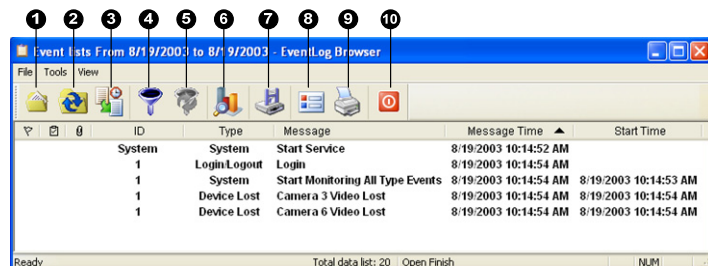

Figure 1-44
4. To print out the alarm reports along with the search results, click the **Page Setup** button (No.8, Figure 1-44), select **Print Managing Alarm Report** and click **OK**.
5. Click the **Print** button (No. 9, Figure 1-44). Find the alarm reports in the last part of the printouts.
Click the **Open** button (No. 1, Figure 1-44) to launch the following Open Database dialog box. Define a time period and select the type of database. If you want to open the logs created by the system, select **System Log**; if you want to open the logs you have backed up in a local drive or CD/DVD, select **Backup Log**. Then assign the log path. After clicking **OK**, the events matching the search criteria will be loaded to the Event Log Browser.
You can filter log events on the defined criteria. Click the **Filter** button (No. 4, Figure 1-44) to bring up the Filter window.
1. On the Event Log Browser, click the **Backup** button (No.7, Figure 1-44). This dialog box appears.
- **Auto Import:** Specify the number of days for which the logs will be loaded to the Event List at the bottom of the Center V2 window (Figure 1-1) and the Event Log Browser (Figure 1-44).
1. On the Event Log Browser, click the **Page Setup** button (No. 8, Figure 1-44) to display this dialog box.
4. Click the **Print** button (No.9, Figure 1-44) to start.